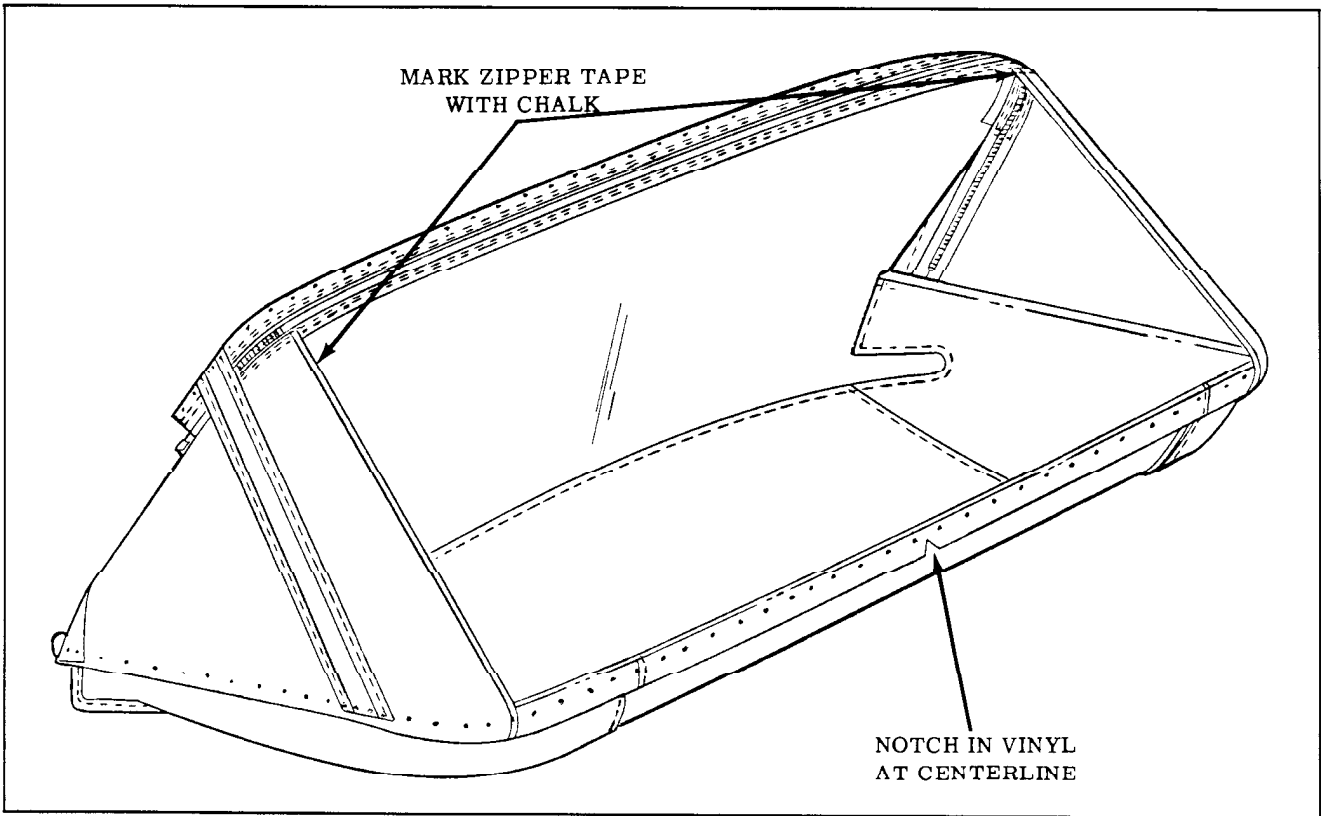

Fig. 17-46 Marking Zipper Tape
14. Using chalk, mark zipper tape at upper edge of vinyl. (Fig. 17-46)